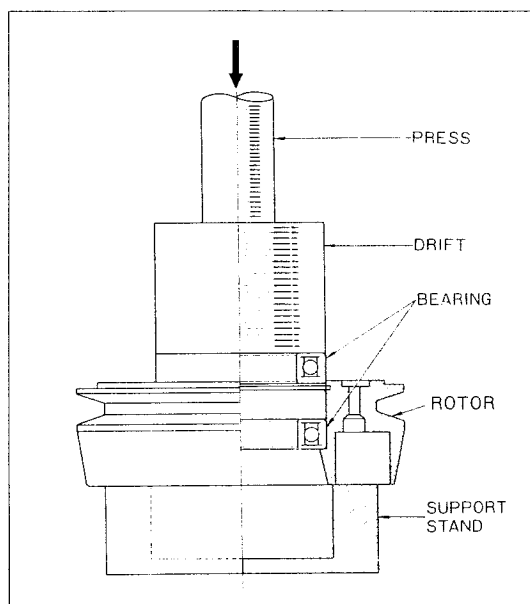

Fig. 84
- 2) Insert two pieces of new bearing into the rotor boss till fully seated. See Fig. 84.